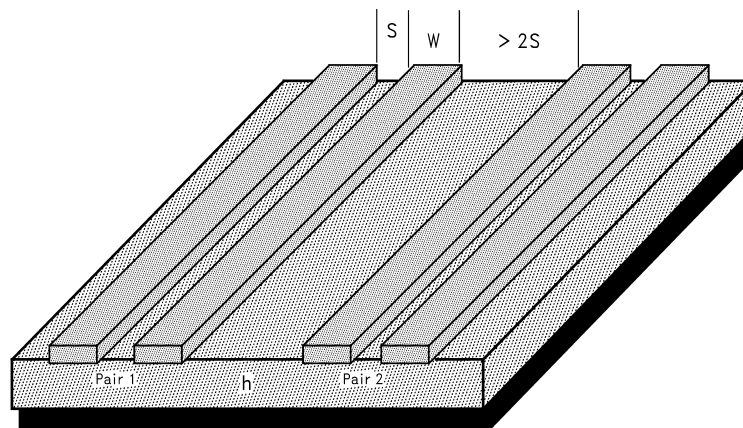

FIGURE 4. Differential Trace Layout (See AN-905)
- Traces should be laid out for differential impedance control (space between traces needs to be controlled). See Figure 4 and AN-905 for equations.
- Place adjacent LVDS trace pairs at least twice as far away (as the distance between the conductors of the pair) (see Figure 4).
- Place TTL/CMOS (large dV signals) far away from LVDS, at least three times ( $>3S$ ) away or on a different signal layer. (See Figure 4.)